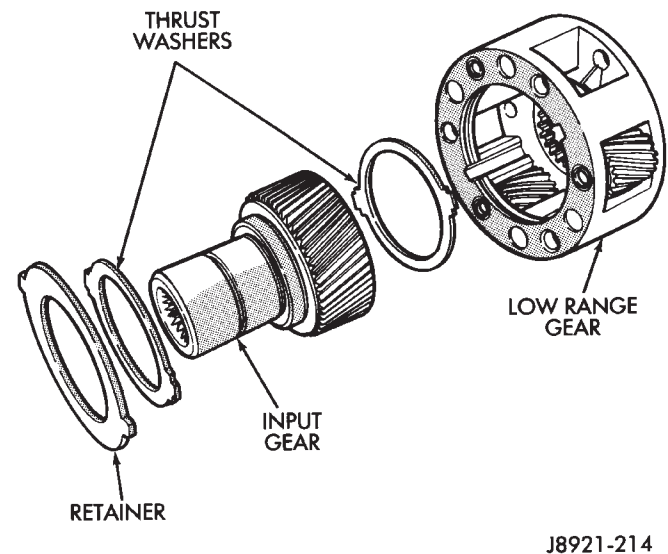

Fig. 63 Low Range And Input Gear Assembly
- (1) Assemble low range gear, input gear thrust washers, input gear and input gear retainer (Fig. 63).